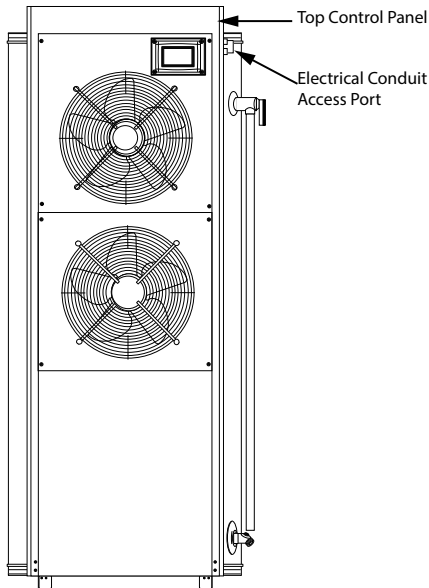

Figure 7. Electrical Installation
- 1) Unlatch the top control panel cover and pick up. See *Figure 1* (page 9) and *Figure 7*.
- 2) Unscrew the power electrical conduit access port. See *Figure 1* (page 9) and *Figure 7*.
4. Run the main power through the power electrical conduit access port. See *Figure 1* (page 9) and *Figure 7*.